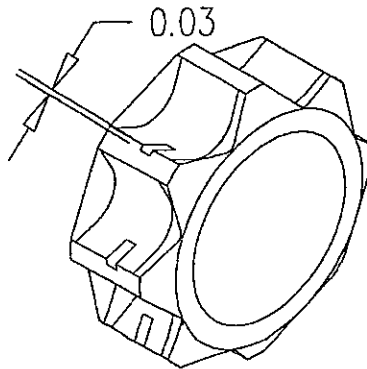

Figure 4-4
1. Check the wear marks on the driving face. Replace the drive sprocket before the wear marks are deeper than $1/32$ ” as shown in Figure 4-4. The outside diameter is also wearing surface. Do NOT turn around and continue using a worn drive sprocket. A worn drive sprocket will increase wear on the chain chassis.